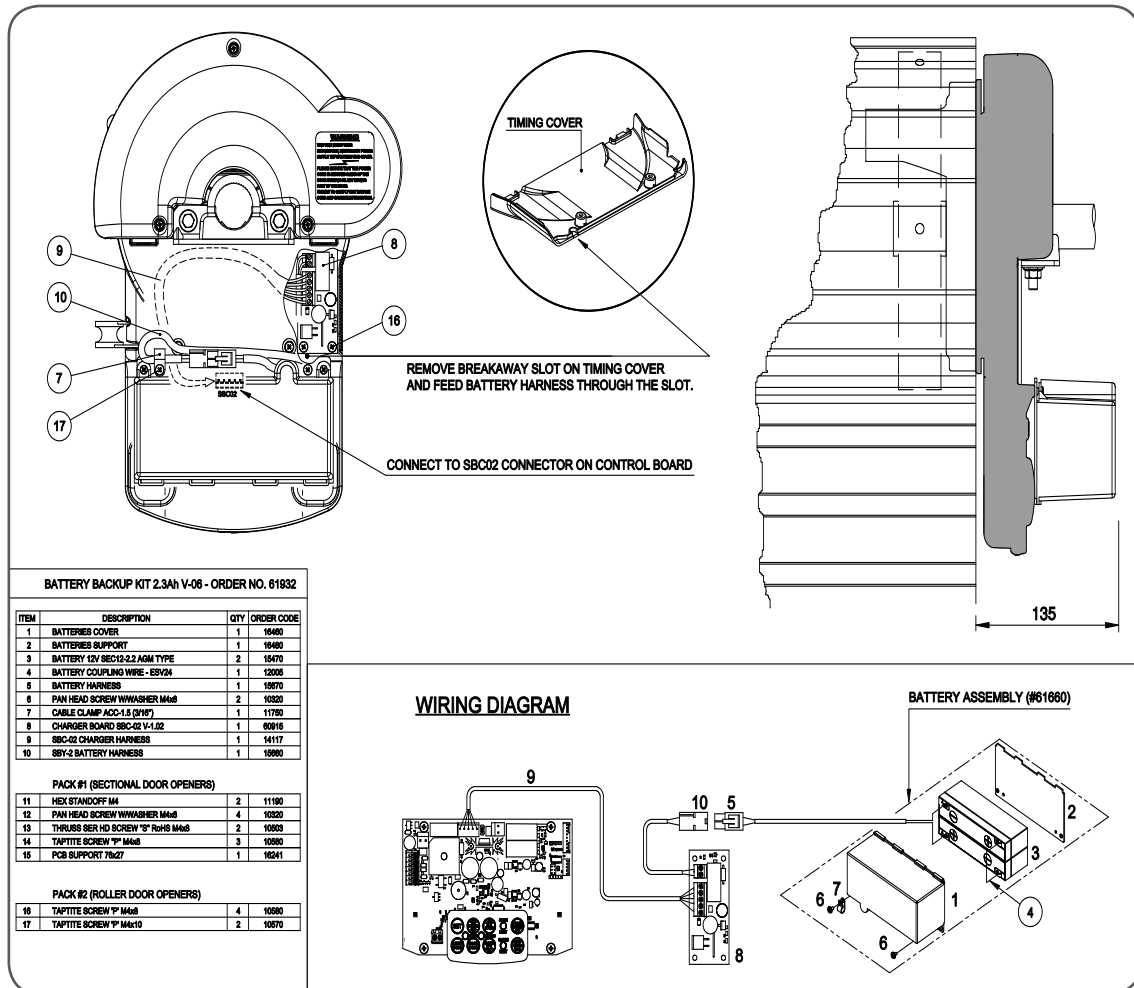

Fig 40
- Remove cable clamp and screw (Fig. 40). Retain cable clamp for later use.
- Mount the SBCO-2 Charger Board on base and secure with four (4) Taptite 'P' M4 x 8 screws.
- Feed five-wire harness around timing assembly, through opening and plug into control board's SBCO-2 connector (Fig. 40).
- Feed 2-wire battery harness item 5 through slot and replace timing cover and secure in place with screws.
- Connect battery harness together (Fig. 40).